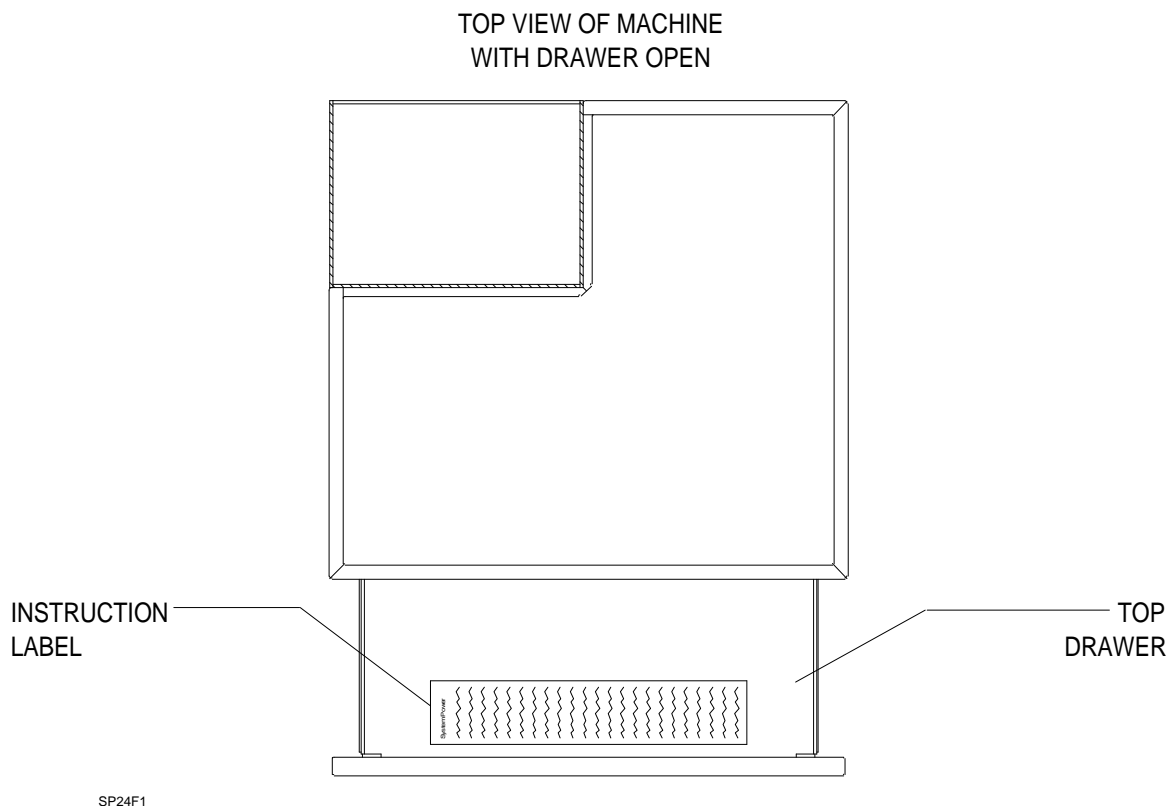

Figure 1: NEW INSTRUCTION LABEL LOCATION
14. Attach a new instruction label to the inside bottom of the top cabinet drawer as shown in Figure 1.